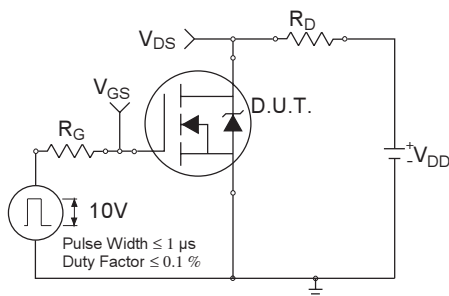

Fig 11a. Switching Time Test Circuit
| $t_{d(on)}$ | Turn-On Delay Time | — | 20 | — | ns | $V_{DD} = 300V$ $I_D = 15A$ $R_G = 1.8\Omega$ $V_{GS} = 10V$, See Fig. 11a & 11b ④ |